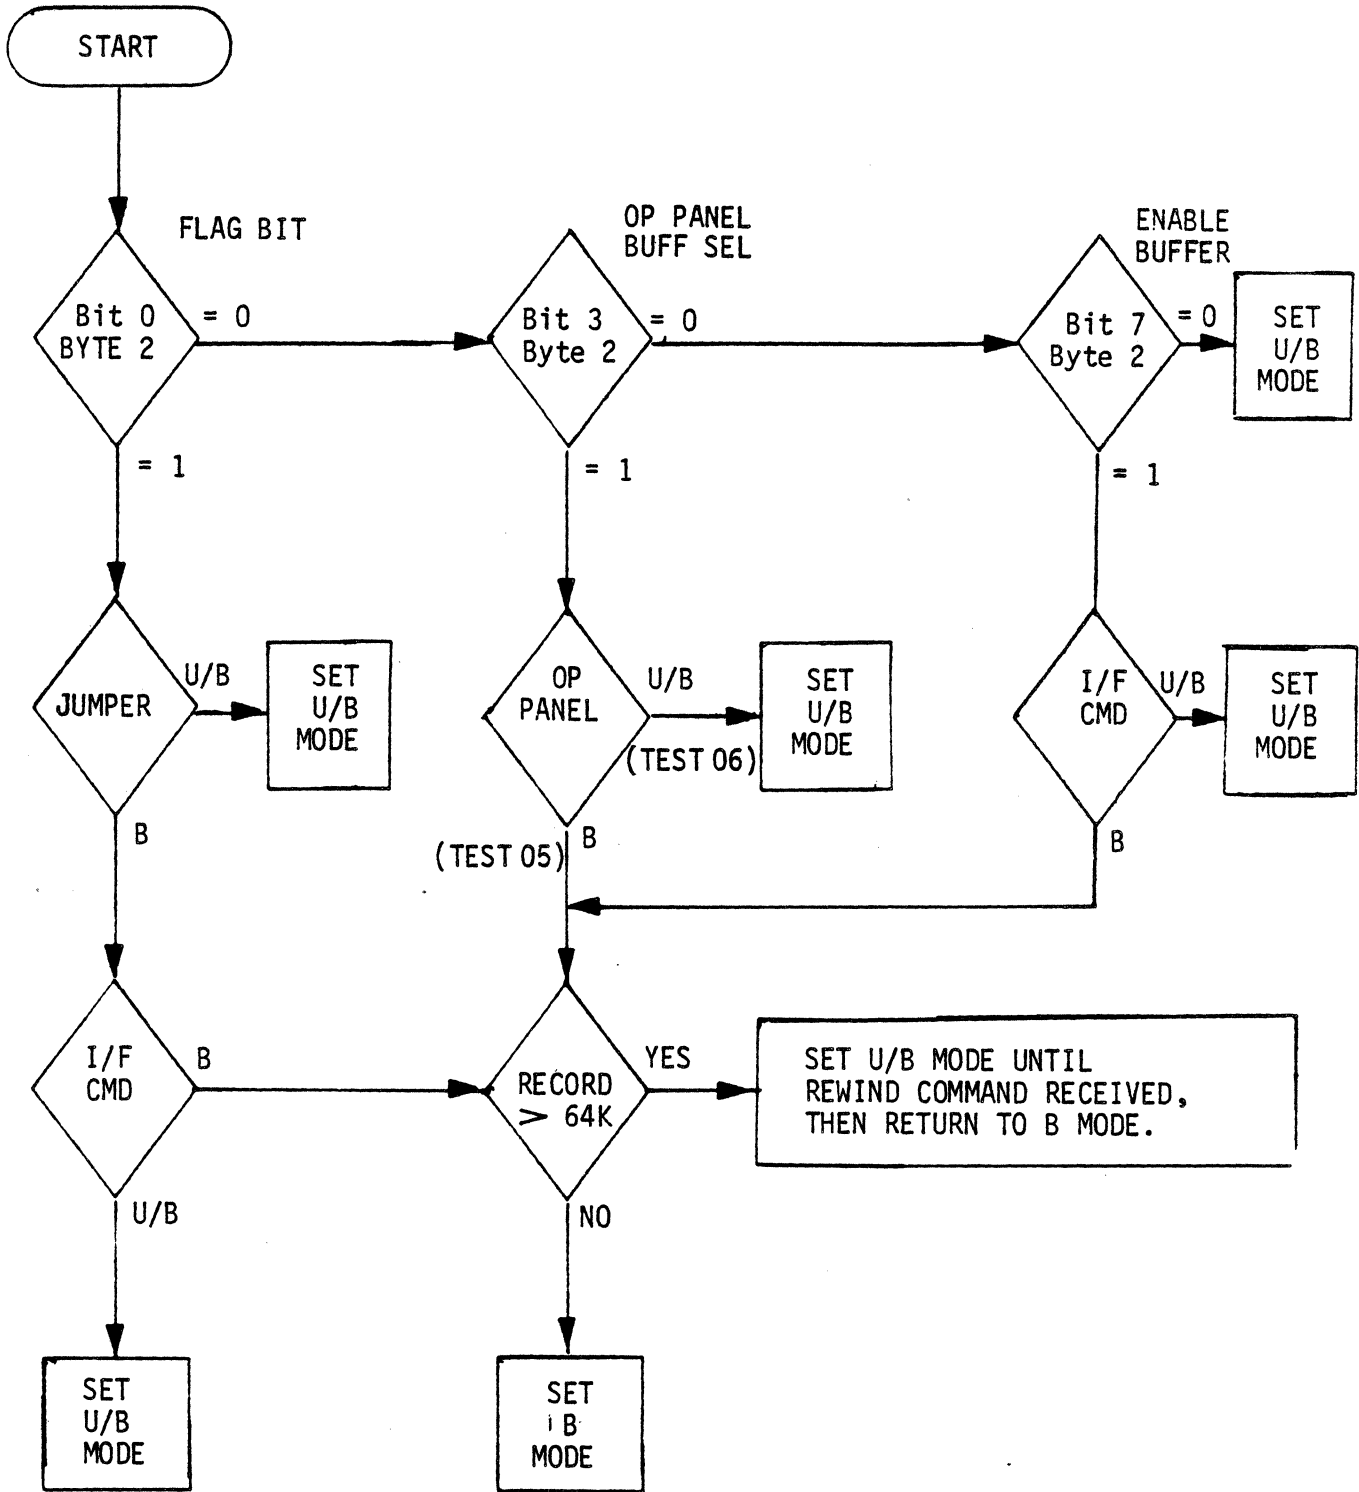

Figure 6-5A. Setting Buffered (B) or Unbuffered (U/B) Mode, Buffered Pertec Enhanced I/F
- c. For priorities in setting buffer mode or unbuffered mode, refer to figure 6-5A.